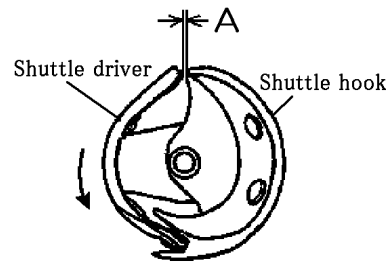

Fig.1
3. When the shuttle driver is turned to left by rotating the handweel, measure the clearance (A) between the shuttle driver and the shuttle hook. (Fig. 1)
A = 0.3 to 0.6 mm (Fig. 1)